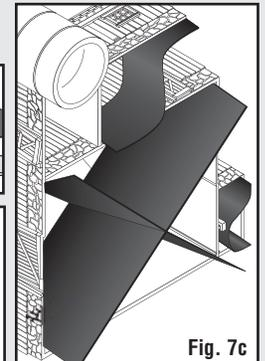

Fig. 7c
- Insert strips into building (**Fig. 7c**).